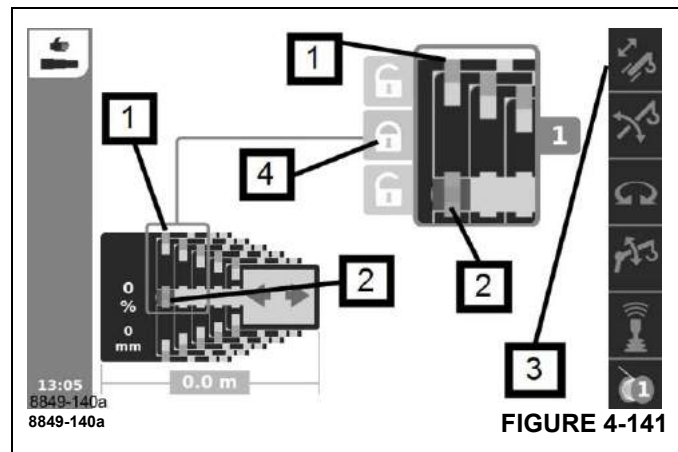

FIGURE 4-141
- Telescoping mechanism on – symbol (3), (Figure 4-141) green.
- Telescopic section locked – symbol (1), (Figure 4-141) green.
**NOTE:** Lock command available – symbol (4), (Figure 4-141) orange.
Telescoping cylinder unlocked – symbol (2), (Figure 4-141) red.